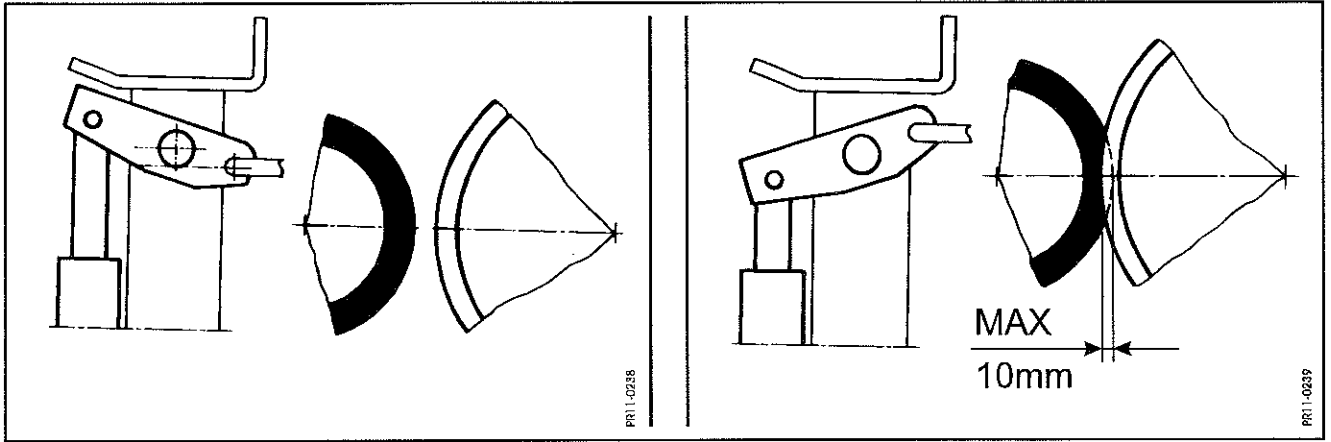

Fig.35
**Fig. 35** Reverse may be used at full speed, but it is recommended to reduce engine speed to relieve the machine as much as possible. Only use the reverse very few seconds at a time.